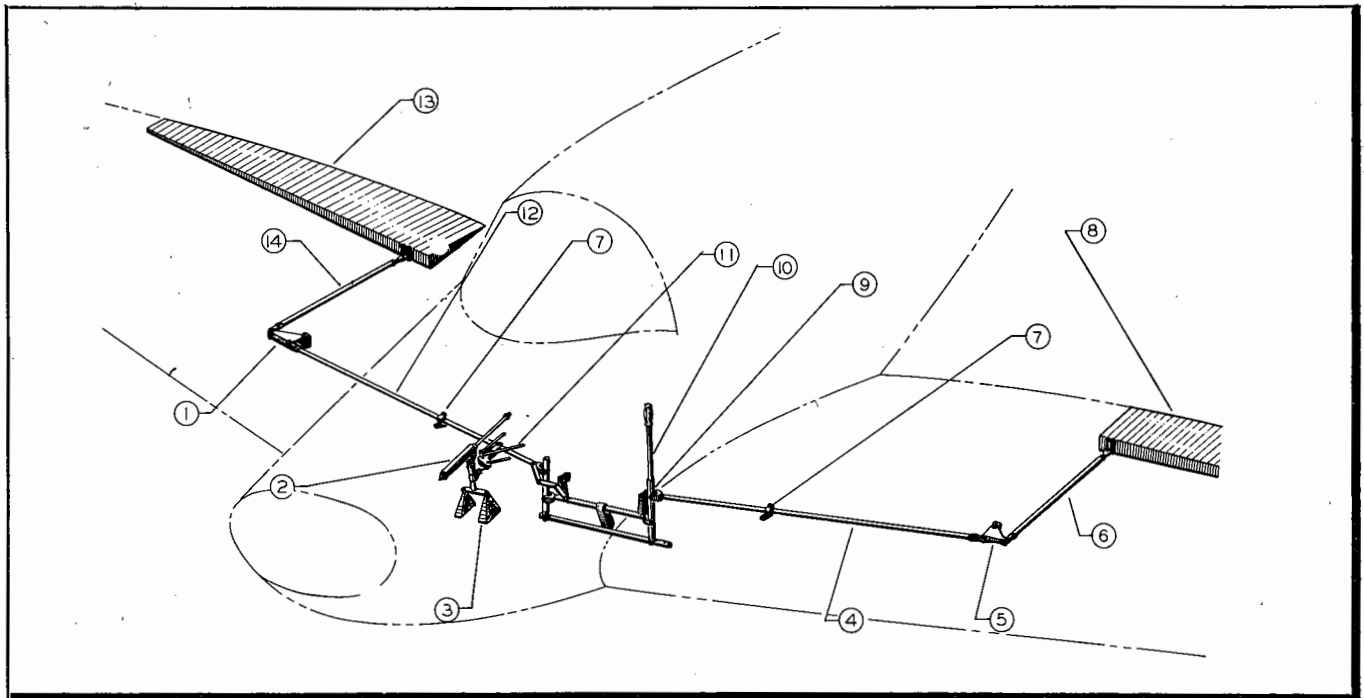

Figure 31—Aileron Servo System—TDC-2
b. AILERON.—Cut the aileron gap tape along the top of the aileron and then disconnect the push-pull tube at the control horn and remove the two hinge bolts. The aileron is now completely disconnected from the wing and can easily be removed by one man. (See figure 31.)
Key to Figure 31